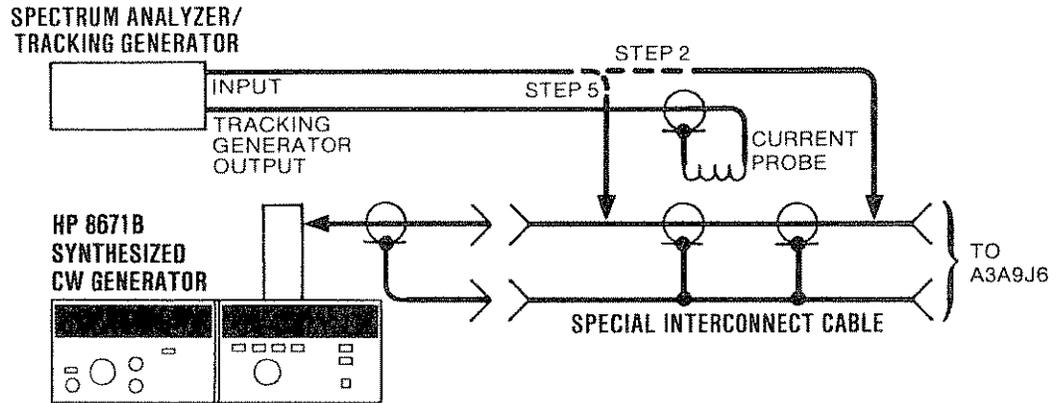

Figure 5-8. YTO Phase Detector Adjustment Test Setup
2. Connect the equipment as shown in Figure 5-8. The special interconnect cable is inserted between A3W16 (gray cable) and A3A9J6 (YTO TUNE 1).